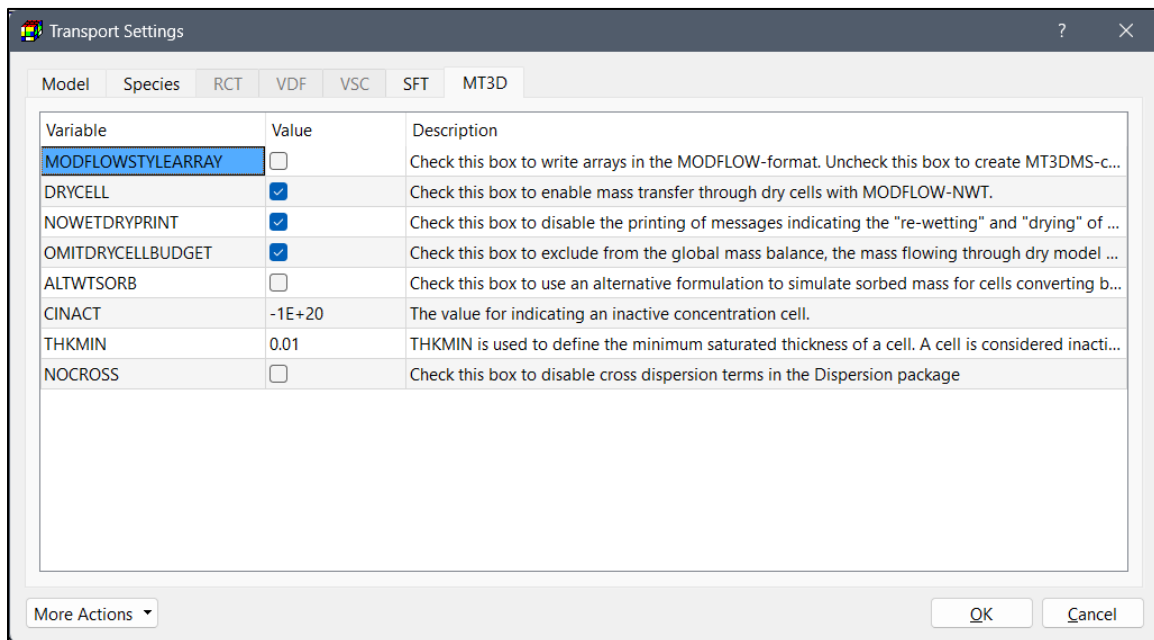

Figure 122. The MT3D tab of the Transport Settings dialog box
8. **MT3D Tab** (Figure 122) contains options and control data of MT3D.